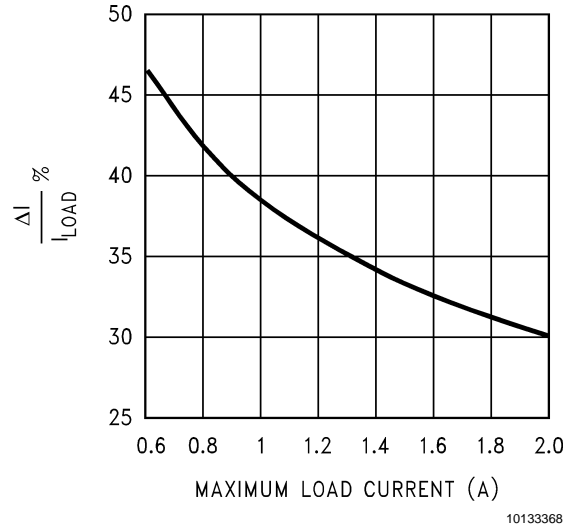

FIGURE 7. Current Ripple Ratio
- The nomographs were generated by allowing a greater amount of percentage current ripple in the Inductor as the maximum rated load decreases (see *Figure 7*). This was done to permit the use of smaller inductors at light loads. *Figure 7* however shows only the 'median' value of the current ripple. In reality there may be a great spread around this because the nomographs approximate the exact calculated inductance to standard available values. It is a good idea to refer to AN-1197 for detailed calculations if a certain maximum inductor current ripple is required for various possible reasons. Also